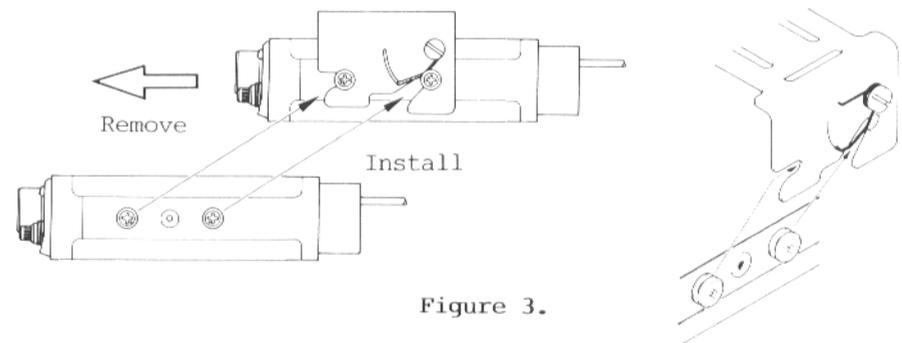

Figure 3.
- (3) Referring to Figure 3, align the mounting rings with the notches in the bracket, and slide the transceiver backward and upward into the bracket until it snaps into place.